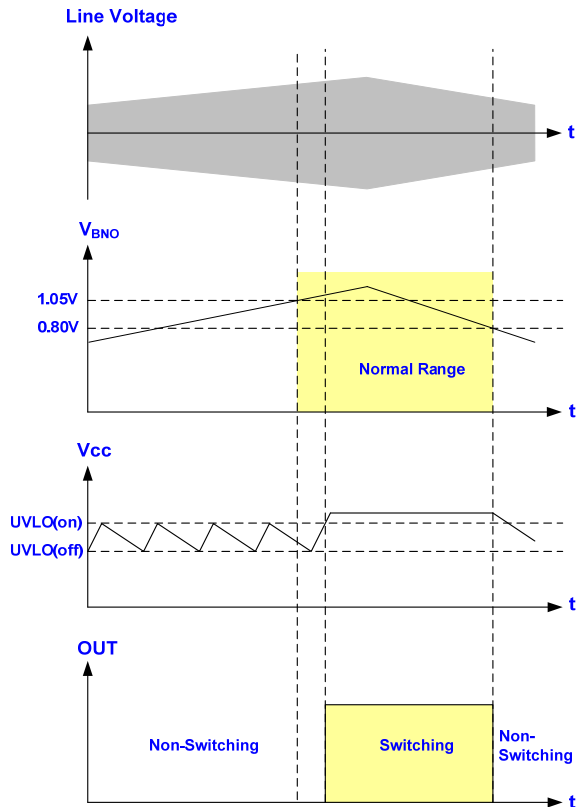

Fig. 20
The LD7537 is programmable to set the brownout protection point through BNO pin. The voltage across the BNO pin is proportional to the bulk capacitor voltage, referred to as the line voltage. A brownout comparator is implemented to detect the abnormal line condition. As soon as the condition is detected, it will shut down the controller to prevent the damage. Figure 20 shows the operation. When VBNO falls below 0.80V, the gate output will be kept off even Vcc has already achieved UVLO(ON). It therefore makes Vcc hiccup between UVLO(ON) and UVLO(OFF). Unless the line voltage is large enough to pull VBNO larger than 1.05V, the gate output will not start switching even when the next UVLO(ON) is tripped. A hysteresis is implemented to prevent the false trigger during turn-on and turn-off. Figure 20 shows the circuit.